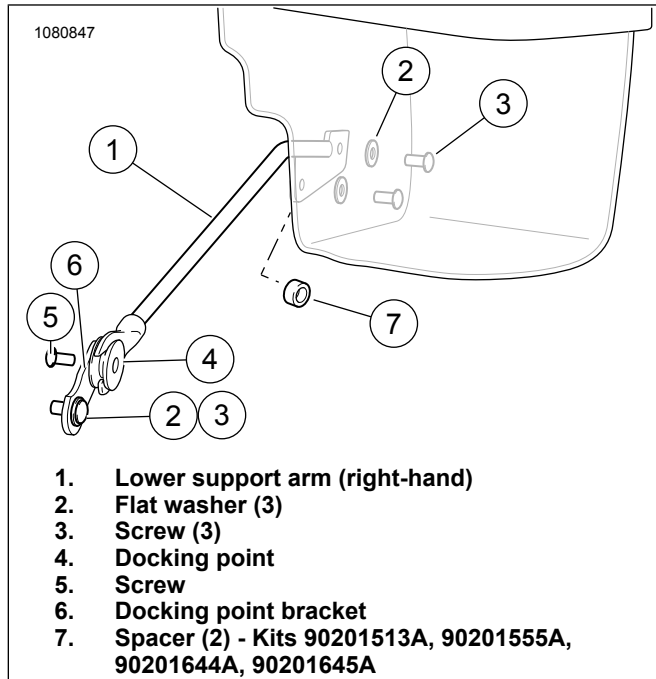

Figure 4. Lower Arm Support
1. See Figure 4. Apply threadlocker to threads of screw (3). Consumable: LOCTITE 243 MEDIUM STRENGTH THREADLOCKER AND SEALANT (BLUE) (99642-97)
2. Loosely install lower support arm (1) on both saddlebags using flat washers (2) and screws (3).
- c. Kits 90201513A, 90201555A, 90201644A, 90201645A: requires two spacers (7) per side, between arm and saddlebag.
1. See Figure 4. Install docking point (4) onto docking point bracket (6) with screw (5). Docking point should be facing outboard when installed on vehicle. Tighten.
- b. See Figure 4. If vehicle does not have passenger footpegs, install bracket onto frame using screw (3) and washer (2). Tighten.